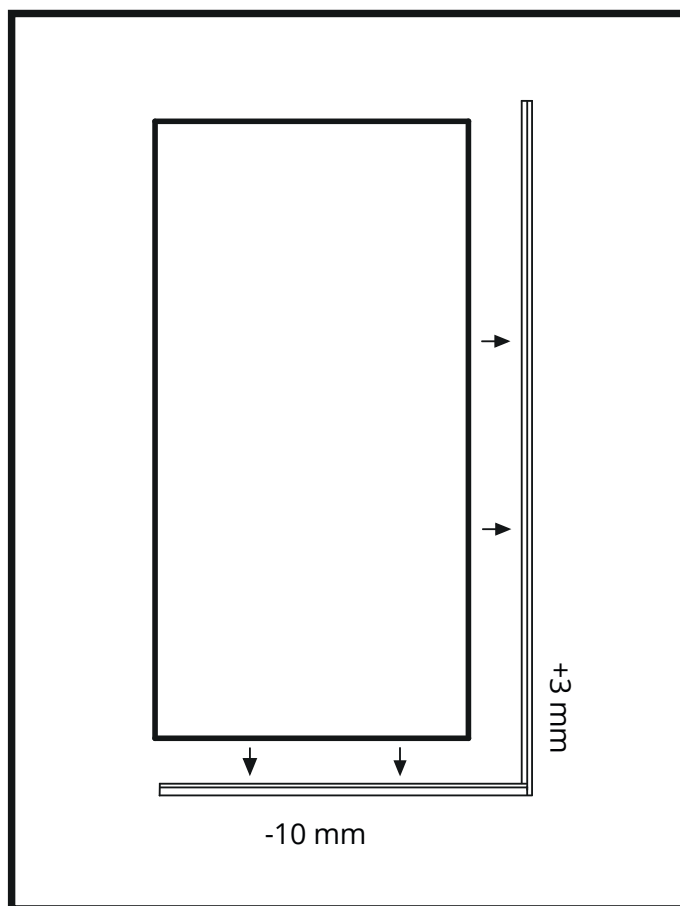

Figure 2
3. Check the length of the U-profile and glass. The bottom U-profile should be about 10 mm shorter than the glass and the longer vertical U-profile should be about 3 mm longer than the glass. (Figure 2)